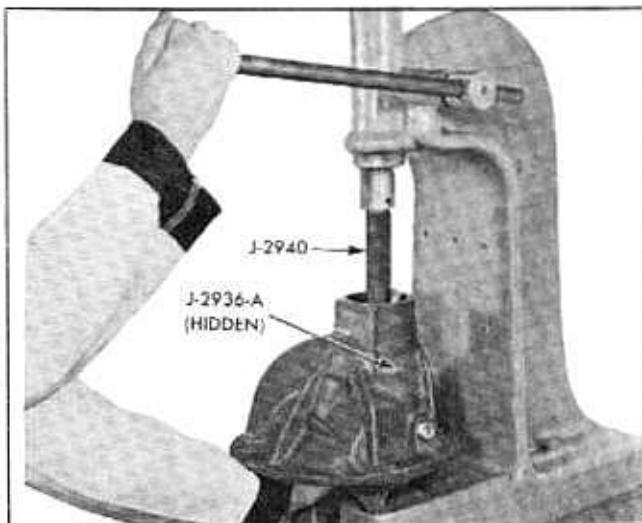

Fig. 4-32 Removing Rear Bearing Outer Race With Remover J-2936-A and Handle J-2940
14. Press pinion rear bearing outer race from carrier using Remover J-2936-A and Handle J-2940 (Fig. 4-32). Use care to prevent race from dropping and causing possible damage to race. Remove pinion adjusting shims from carrier.